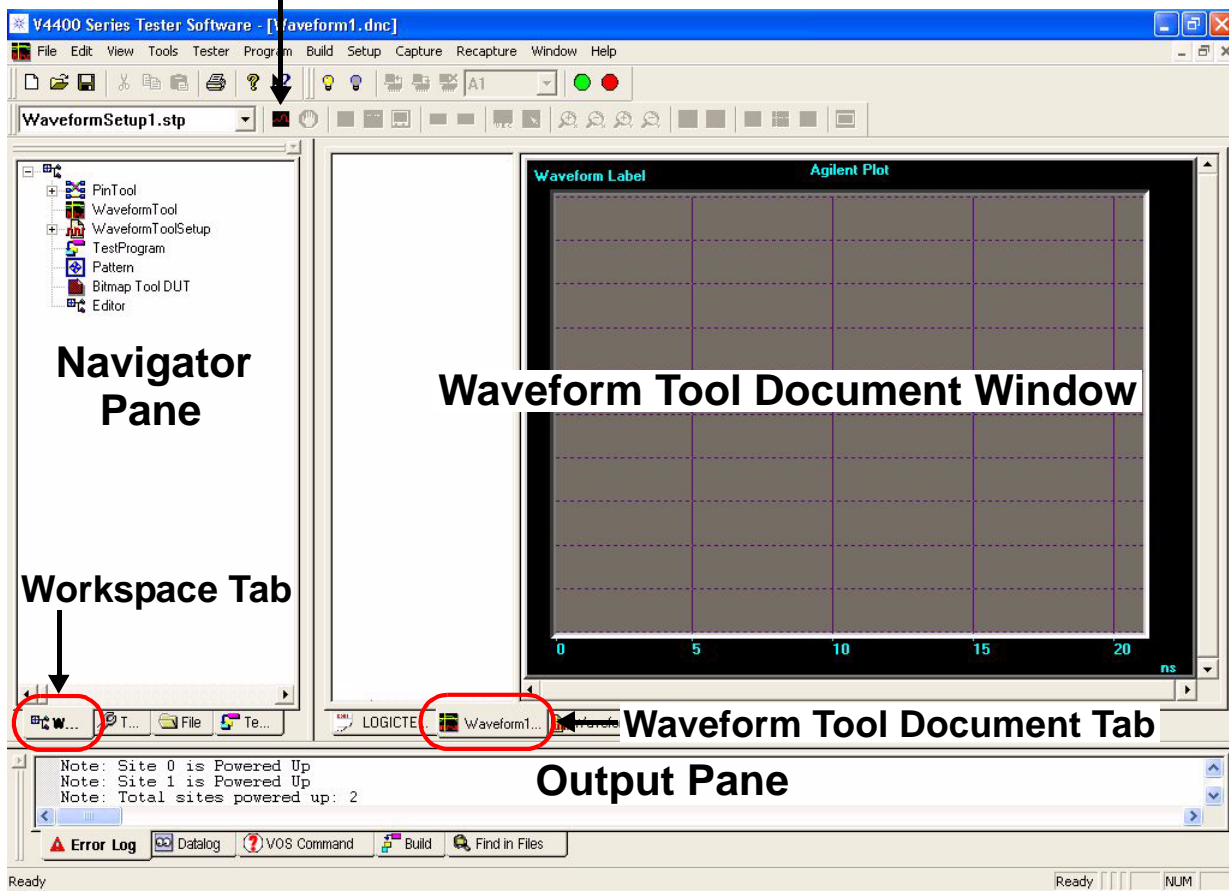

Figure 6-72. Waveform Tool Document Window Prior to Capture
- 3 Selecting the Waveform Tool Document tab displays its window with its corresponding menus and toolbars (Figure 6-72).